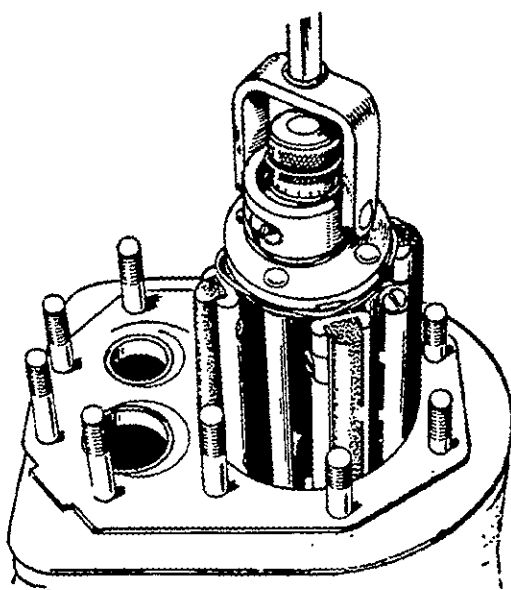

FIGURE 75. HONING CYLINDER
1. A hone can be used to rebores a cylinder, Figure 75. Remove stock to 0.002 inch (0.051 mm) less than finished bore with coarse hone (100 grit), then complete honing with finish hones (300 grit).